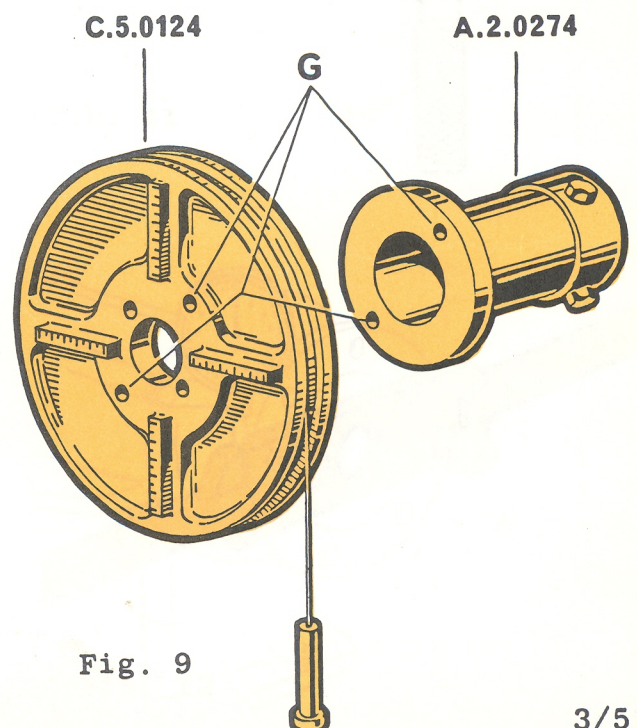

Fig. 9
- 9 On the Alfasud model, in order to check the torque to turn the pinion shaft, fit the adaptor A.2.0274 to the tool C.5.0124 and secure them together with the screws "G". See fig. 9.